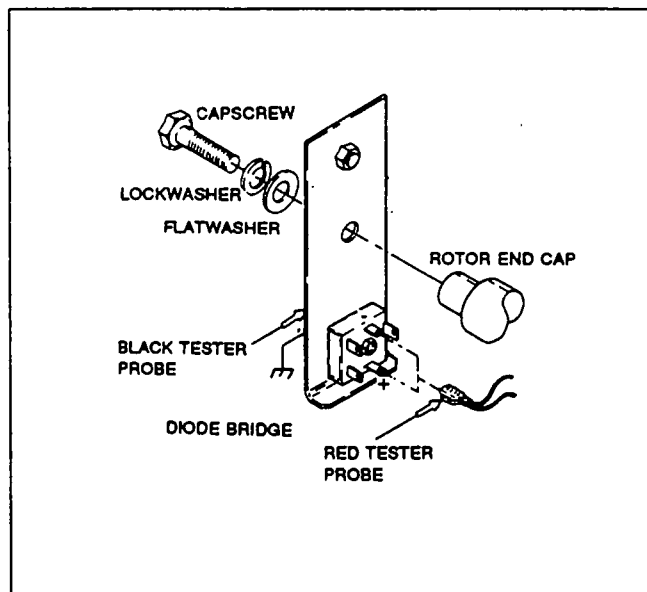

Figure 1. Testing Main Rotor Insulation
1. In the AC connection (lower) panel, locate the diode bridge (Figure 1).